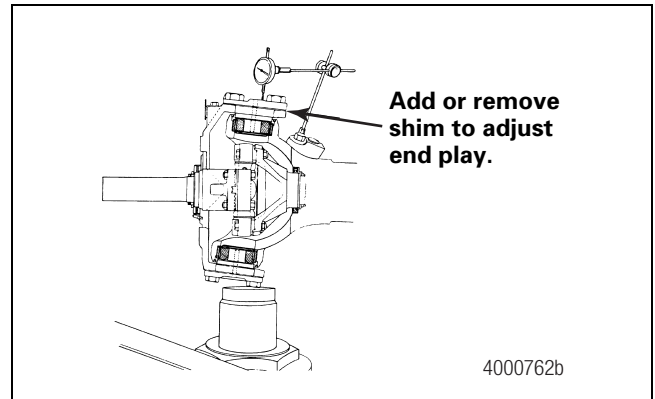

Figure 6.7
- B. Place a magnetic base dial indicator into position on the housing. Figure 6.7.